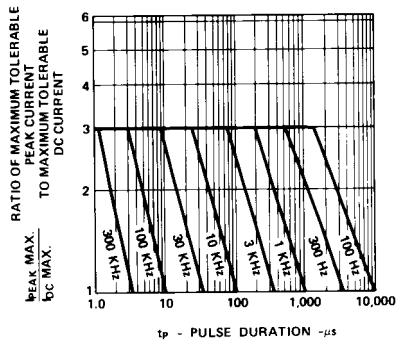

Figure 5. Maximum Tolerable Peak Current vs. Pulse Duration. ( $I_{DC\ MAX}$  as per MAX Ratings).
1. See Figure 5 (Red), 10 (Yellow), or 15 (Green) to establish pulsed operating conditions.